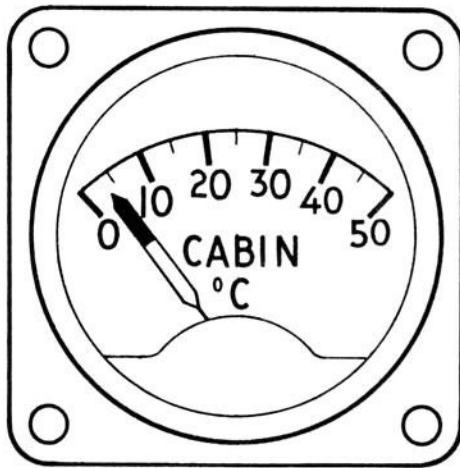

Fig. 1 Dial presentation
1. The indicator (Ref. No. 6A/6503) (fig. 1) is a single ratiometer type instrument housed in a 2.3/8 in s.a.e. case, the dial being calibrated from 0 to 50°C. The instrument is calibrated to the nickel law.